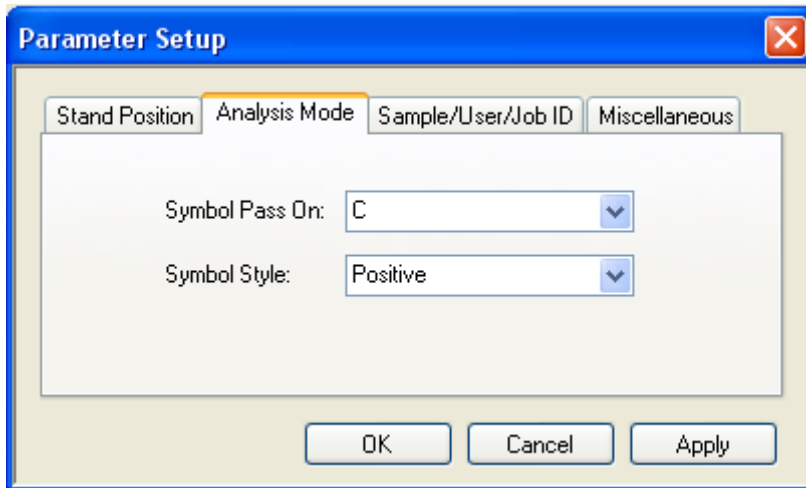

Figure 3-2
1. Select tab **Analysis Mode** (Figure 3-2)